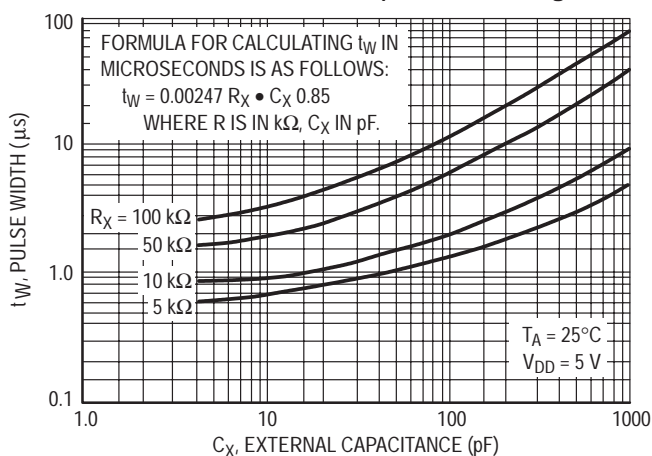

Figure 3. Typical  $C_X$  versus Pulse Width @  $V_{DD} = 5.0 V$
**MONO-IN (Pin 15)** — Used as the timing pin for the on-chip monostable multivibrator. If the Mono-In input is connected to  $V_{SS}$ , the monostable circuit is disabled, and Decode Out is directly connected to the selected Q output. The monostable circuit is enabled if a resistor is connected between Mono-In and  $V_{DD}$ . This resistor and the device's internal capacitance will determine the minimum output pulse widths. With the addition of an external capacitor to  $V_{SS}$ , the pulse width range may be extended. For reliable operation the resistor value should be limited to the range of 5 k $\Omega$  to 100 k $\Omega$  and the capacitor value should be limited to a maximum of 1000 pf. (See figures 3, 4, 5, and 10).